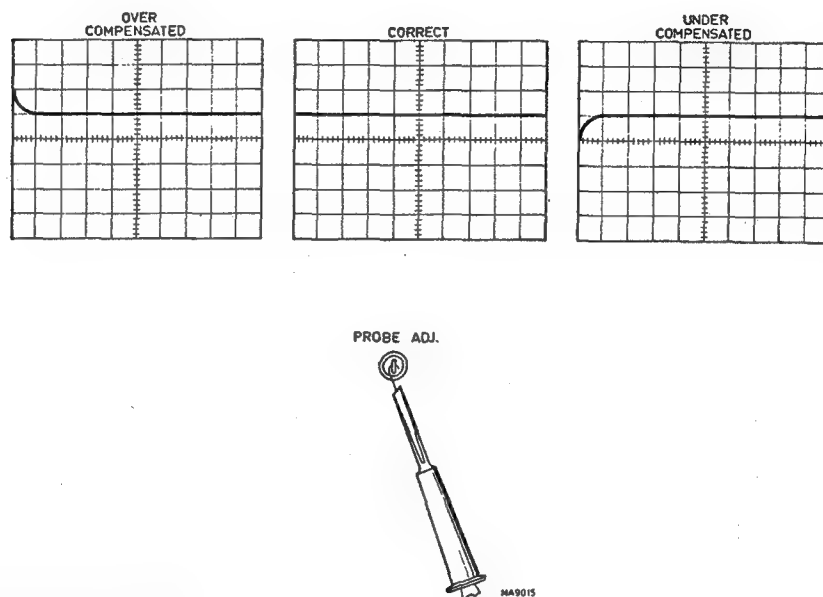

Fig. 2.4. Probe compensation
- Set AMPL/DIV switch (862) to 5 mV/div.
- Connect the compensation box to socket A (851) and place the tip of the probe on socket PROBE ADJ (854).
- Insert a small screwdriver through the hole in the compensation box and adjust the trimmer to obtain a correct display as shown in Fig. 2.4.